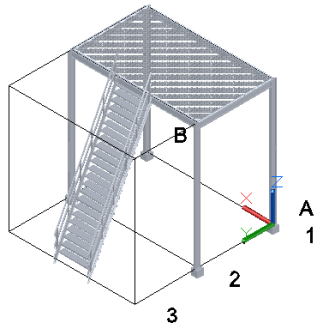

Figure 3-47 Railing added to the stairs
3. Select the stairs; a railing is added to the stairs, as shown in Figure 3-47.